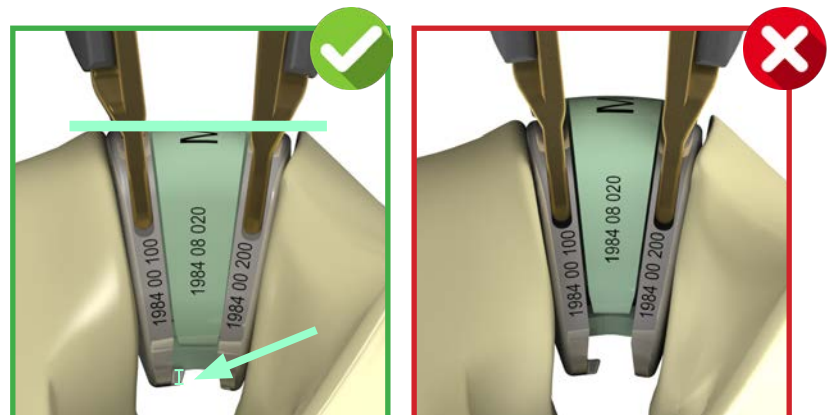

Fig. 31
- When the Implant core locks into the endplates, it will be aligned flush with the anterior face of each vertebral endplate (Fig. 31). Imaging should be used to confirm core position. In a lateral x-ray, a small gap should be visible at the posterior of the configuration, as indicated in Fig 31.